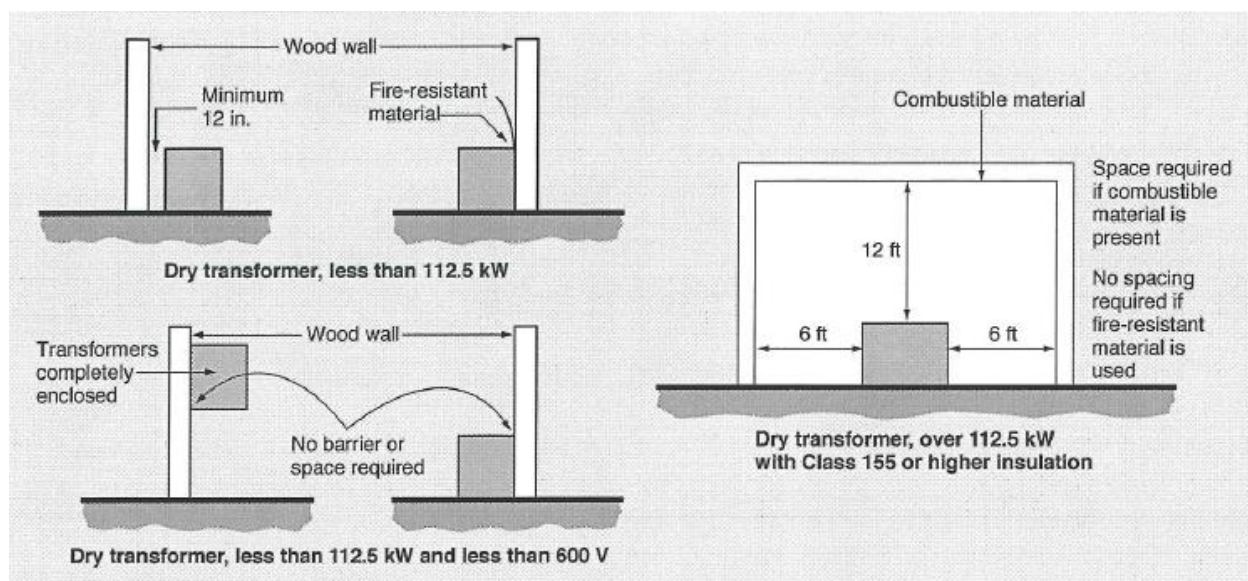

Figure 9.15: NEC Installation Requirements
- 9-60 Figure 9.15 shows how a transformer rated at 112.5 kW may be installed. The transformer must be mounted at least 12 inches from combustible materials, unless a fire-resistant barrier is installed between the transformer and the material. The transformer must be rated at not more than 600 V and it must be totally enclosed except for ventilating holes.